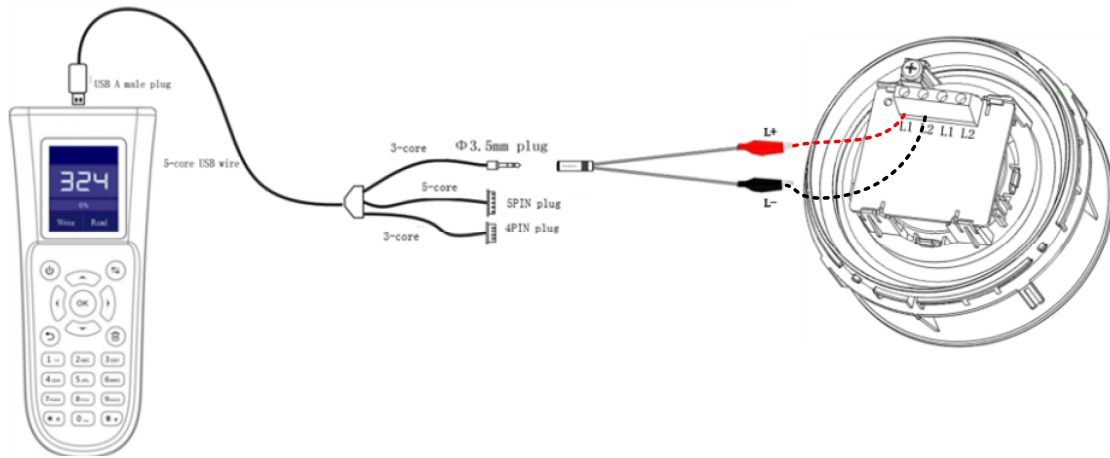
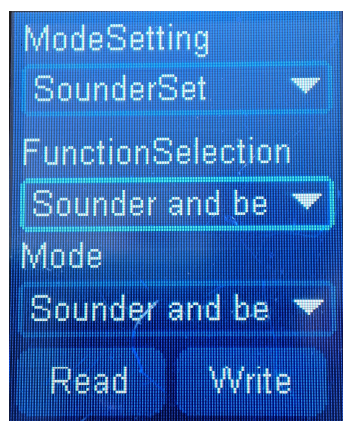

Fig.4
Fig.5
- (4) Mode code: The modes of the Sounder Beacon are all set by the coder, and there are four different modes in total, which are divided into Sounder Beacon/Sounder/Beacon mode, Intelligent/Conventional mode, Tone mode, and mute non-stop beacon mode. The wiring method is shown in Fig. 4, the interface is shown in Fig. 5.